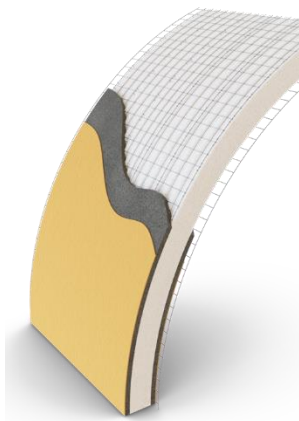

Fig 3.
- The curved panel is just a single panel, the panel is manufactured as a curved panel to meet the design requirements. The single panel which consists of an EPS rigid core with prefabricated, galvanized, high tensile steel wire mesh reinforcement (600Mpa). Following erection on site it is sprayed both sides in shotcrete (concrete) creating a structural building. (See Fig 3.)